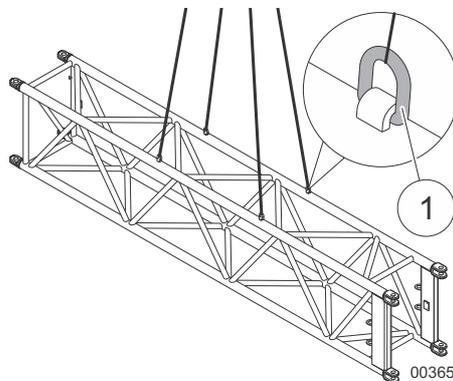

Fig. 236 Lifting points on the lattice boom section
- 10 Attach suitable lifting equipment to the lifting points (1) in Fig. 236 on the lattice boom section and then to an auxiliary crane.